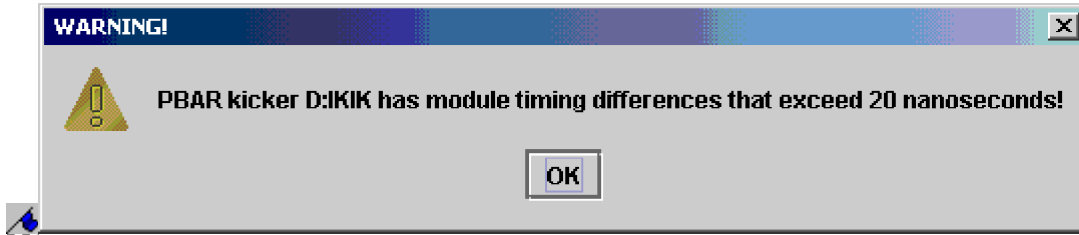
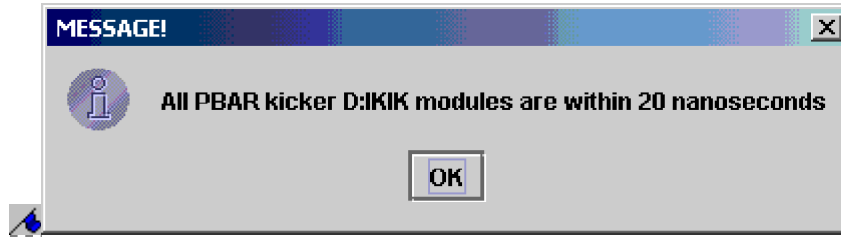

Figure 17: Click OK to continue with the tuning changes.
Figure 20:
7. If any tuning changes are required, you will get a popup window, as shown in Figure 17, that states that D:IKIK has timing module differences that exceed 20 nanoseconds. If all of the kicker times are within 20 nanoseconds, you will get a popup window like that shown in Figure 20, and can then skip ahead to Step 11 of this procedure.
10. Repeat Step 6 to Step 9 as necessary until all the kicker modules are aligned. Once aligned, a popup window will appear, as shown in Figure 20, that says that all kicker modules are within 20 nanoseconds.